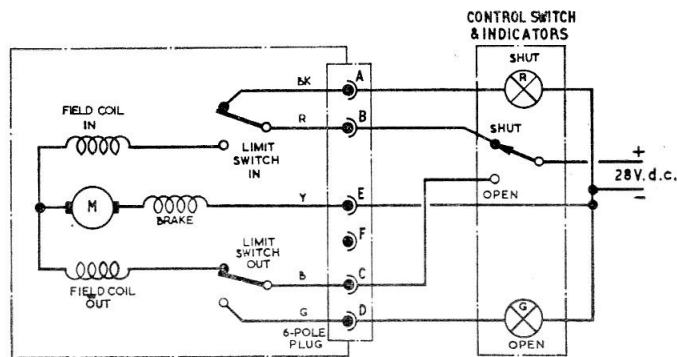

Fig. 4 Typical circuit diagram
15. The internal connections and a typical external circuit are shown in *fig. 4*.